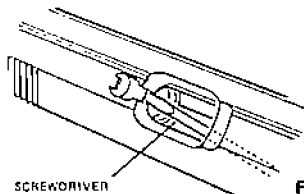

FIGURE 10—EXTRACTOR IN CLEANING POSITION
9. Pull barrel bushing forward out of slide and off barrel (3).
10. Rotate barrel slightly and pull it forward out of the slide (4) and (5). Now see Figure 10.